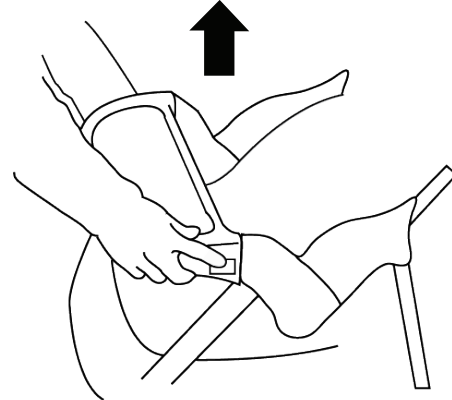

Fig. 6C
11. To remove the child tray: Press the right and left release buttons and pull upward on child tray (Fig. 6C).